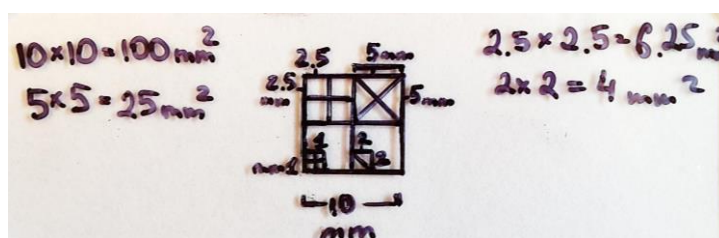

Figure 2: Picture of the microscope slide used for area determination.
- Using a measuring slide (figure 2) estimate the approximate tumor tissue surface area on H&E slide. Ideally at total surface area of $>150 \text{ mm}^2$ (15 mm^2 tumor surface area X 10 slides) will yield sufficient DNA and RNA for exome and RNA sequencing libraries; macro dissection of multiple slides may be required. A maximum of 600 mm^2 of tumor tissue (100 mm^2 tumor surface area X 6 slides) may be extracted over 1 purification column set. Tumors with a total surface area of $<150 \text{ mm}^2$ should be prioritized for DNA or RNA extraction only; separate protocols apply.